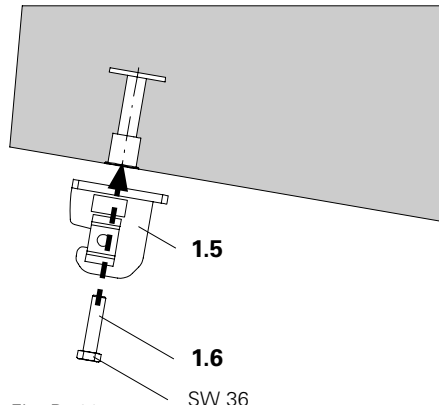

Fig. B1.02
1. Attach Suspension Head VGK (1.5) to the Anchor Sleeve M24 by means of Bolts M24 x 100-8.8 (1.6). (Fig. B1.02)